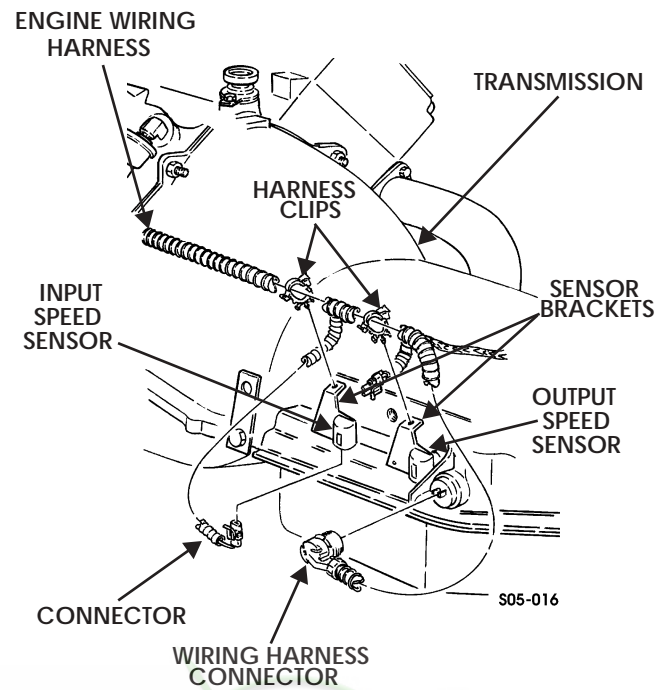

Figure 5-57: Speed Sensor
16. Remove connectors from input speed sensor and output speed sensor (Figure 5-57). Tag connectors for front or rear installation.